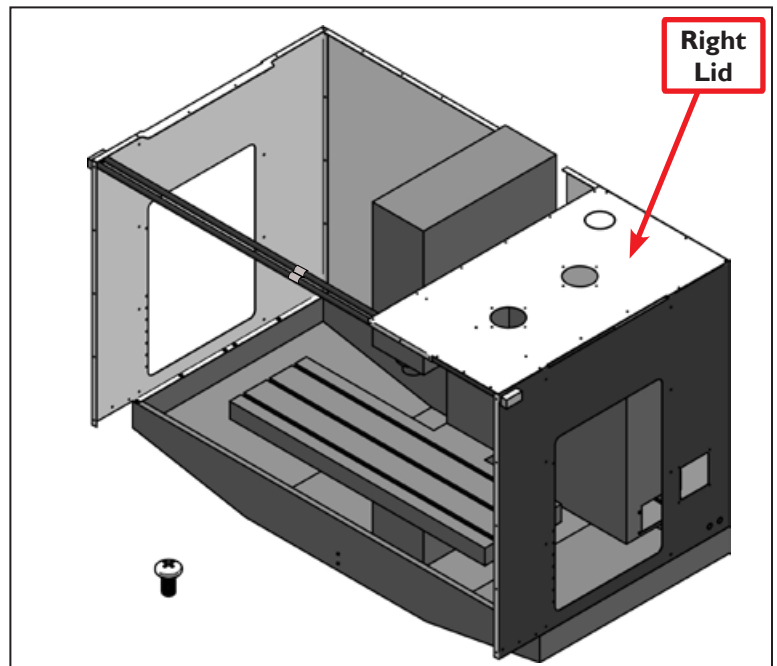

Figure 8
22. Place the upper Right Lid (E.29) on top of the right rear panel, right side panel and door support rods (see **Figure 8**). Loosely fasten with (F) screws along the rear and side panels.